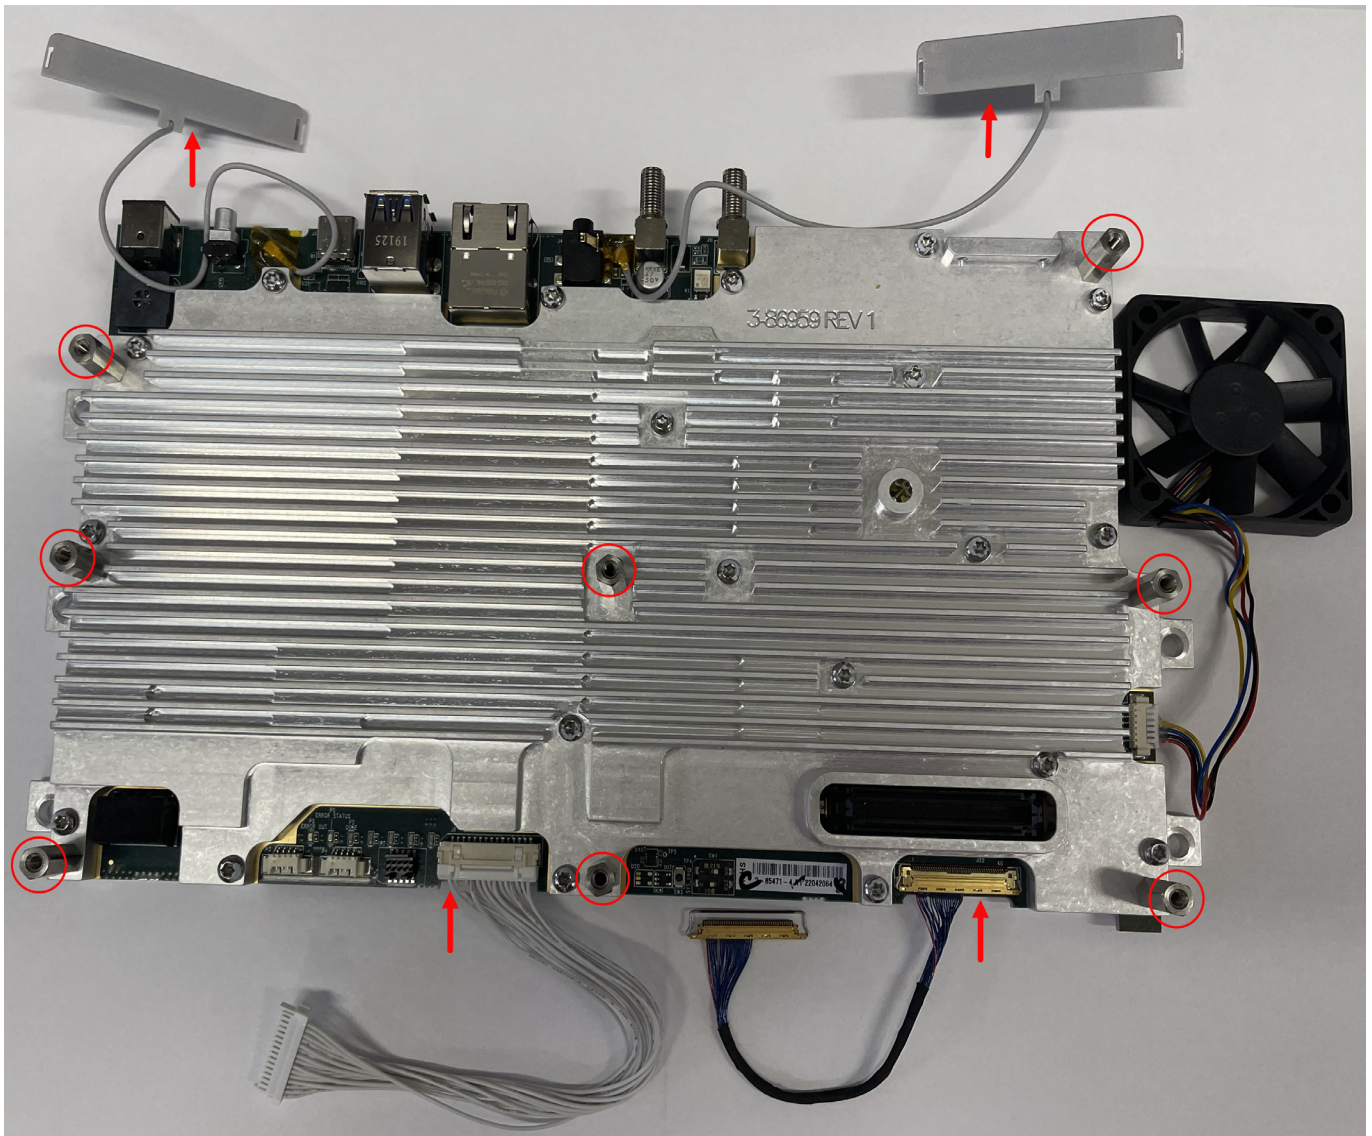

Figure 3-17. Main PCB Removal
2. Remove the eight stand-offs using 6 mm hex socket driver to remove the Main PCB. See Figure 3-17.